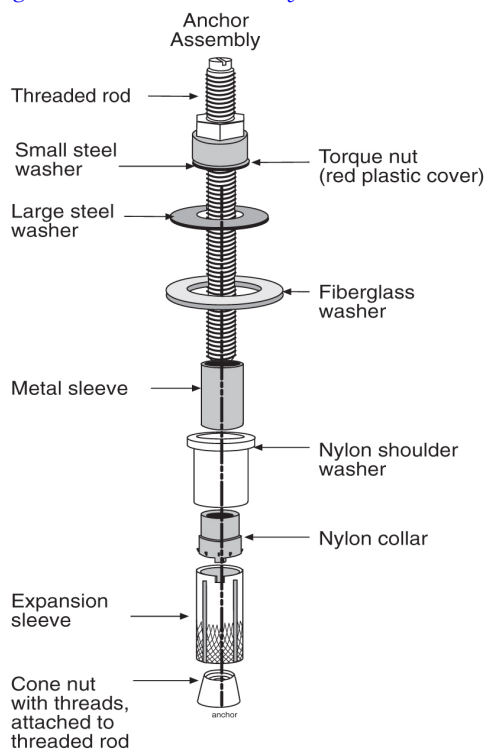

Figure 21: Anchor Assembly
2. Check the hole to make sure the fully assembled anchors can be set into the concrete three inches. The metal sleeve shown in Figure 21: Anchor Assembly must be below the floor.
3. Install two square washers below the round fiberglass washer as shown in Figure 21: Anchor Assembly.
4. Install the anchor assemblies in the order shown in Figure 21: Anchor Assembly.